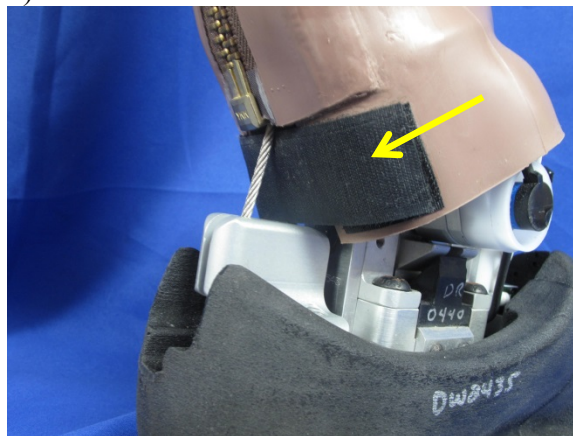

Figure 12-72. Attach hook and loop fastener at ankle
- 12.2.2.53 Attach the hook and loop fastener over the end of the zipper near the ankle (Figure 12-72).